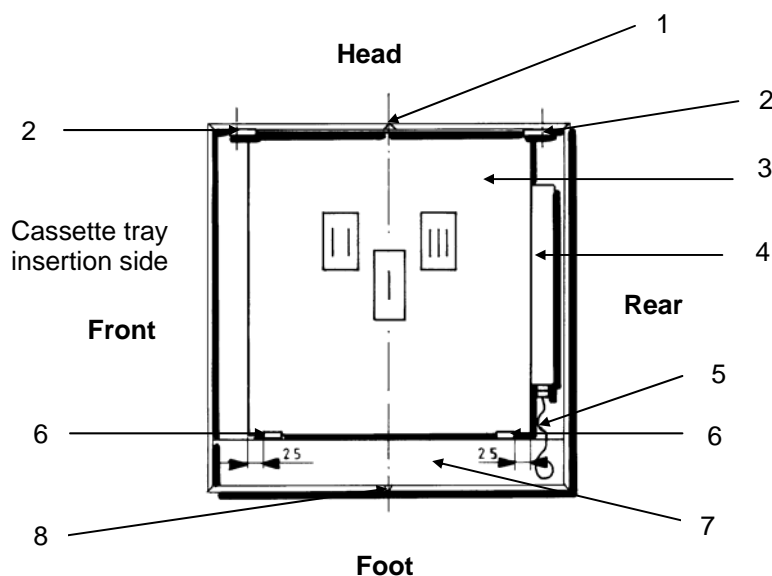

Fig. 2-1 Bucky with Measuring chamber
- Unscrew cover plate (Figure 2-1, item 7)
- Insert the measuring chamber (Figure 2-1, item 3) into the bucky with the preamplifier to the rear and the left measuring field (II) and the right field (III) to the head direction (Figure 2-1, item 4)
- Place positioning blocks (Figure 2-1, item 6) according to version of the chamber (Figure 2-1, item 3) approx. 25 mm apart from the border of the measuring chamber (refer to Fig 2-1) and insert chamber with blocks into the bucky.
- Position fasteners (figure 2-1, item 2) at the measuring chamber and tighten them at the corresponding holes of the bucky frame.
- Take care that the center of the chamber is in line with the center of the bucky. The front to rear center is marked by a notch (Figure 2-1, item 1) and a slotted hole (Figure 2-1, item 8). the head to foot center should be fixed automatically by the positioning blocks.
- Connect the chamber interface cable (Figure 2-1, item 5) at the preamplifier of the chamber (Figure 2-1, item 4)